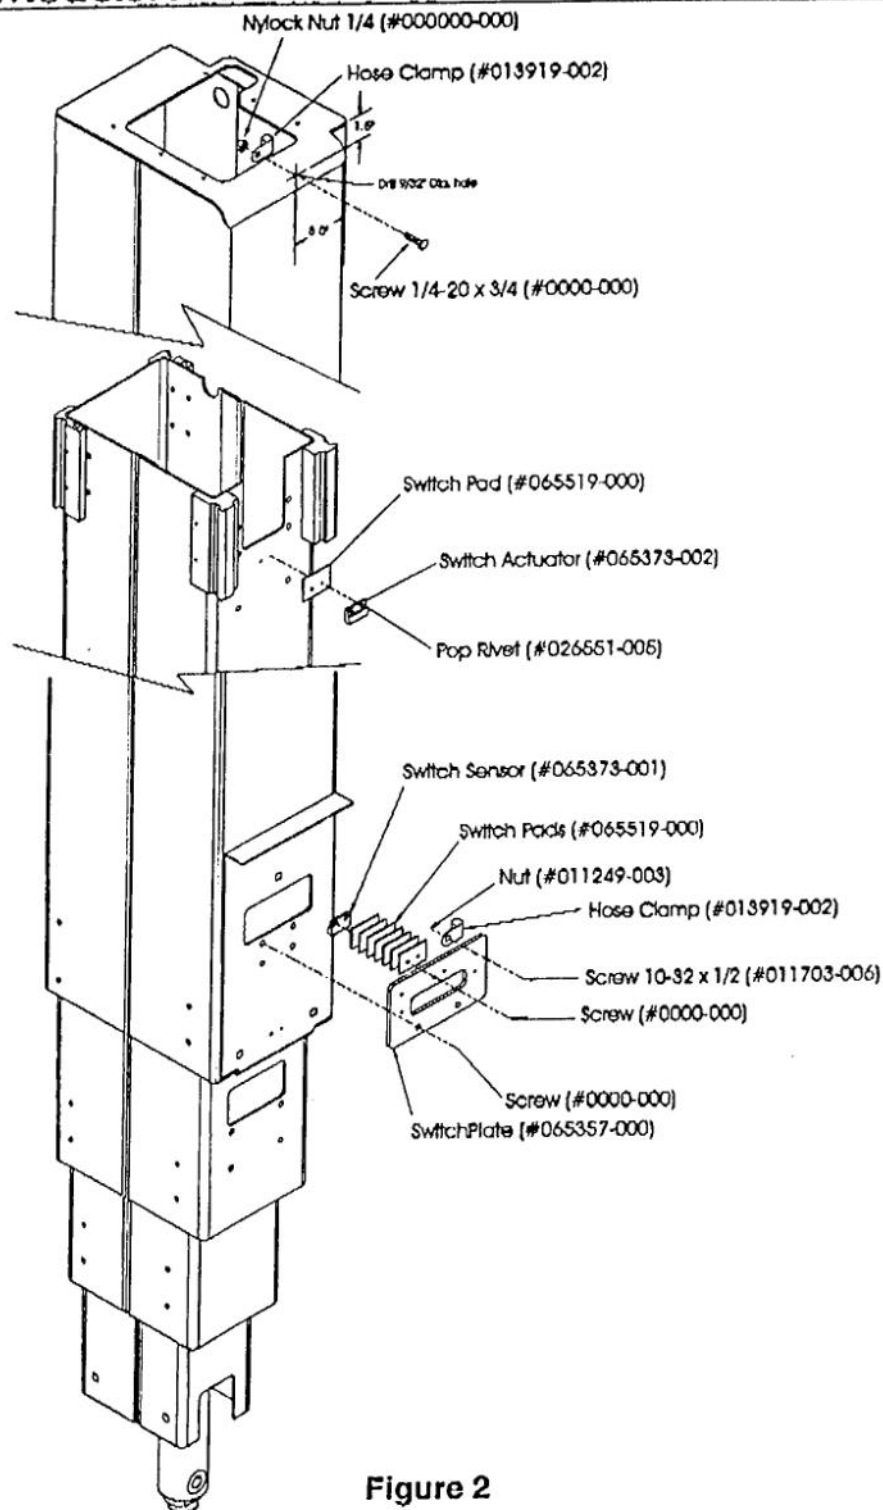

Figure 2
PROCEDURE: Read all instructions thoroughly and refer to figure 2 before starting.
1. Raise machine to full extension in order to gain access to the existing opening at the top of #4 Mast (see figure 2 detail A).
2. Using the Pop Rivets (#026551-005) supplied with Kit, install the Switch Pad (#065519-000) to the #4 Mast (see figure 2, detail A).